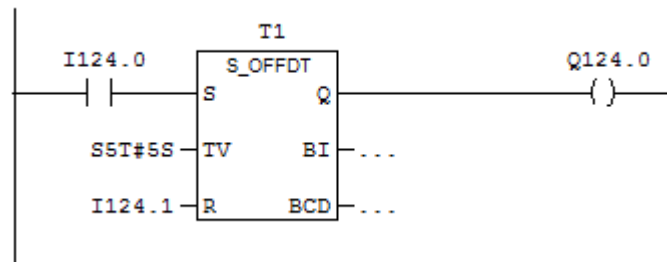

Figure 17. Ladder diagram of Timer Off Delay
- Configure ladder diagram for timer off delay as shown in Figure 17.